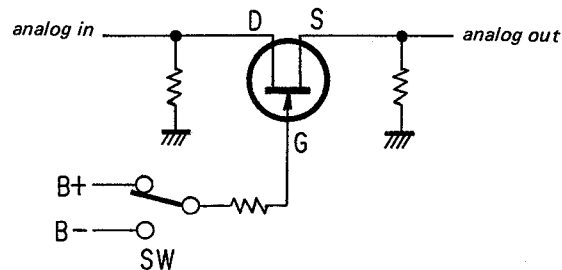
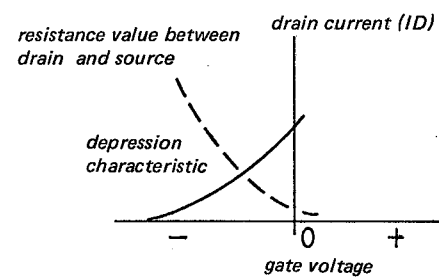

Fig. 10
Fig. 11
The circuit shown in Fig. 10 is an analog switch.
- Fig. 10 illustrates N-channel junction FET and is an example of when source (S) is positioned at the analog output side.
- When the switch for gate (G) polarity is set at B+ side, current flows between drain (D) and source (S).
- When the switch for gate (G) polarity is set at B- side, current between drain (D) and source (S) is cut off.
- FET used in PS-X800 has the depression characteristic as shown in Fig. 11.
- From Fig. 11, the following can be seen: